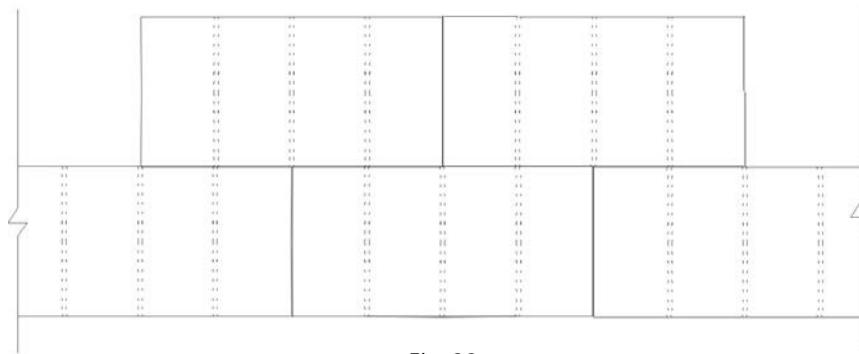

Fig. 22
5. Install subsequent rows of insulation board in a running bond pattern (vertical joints staggered) as shown in Figure 22.